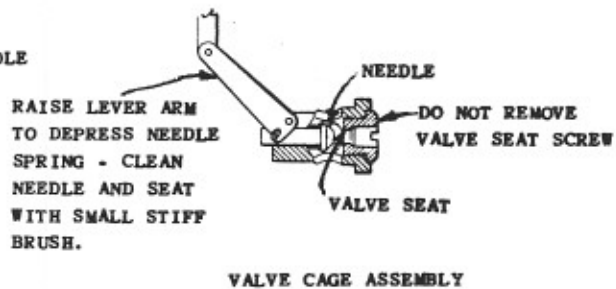

FIGURE 194
7. When valve cage assembly has been taken out as shown in Figure 194, raise lever arm to depress valve spring and raise needle off of seat. Clean out with small stiff brush using solvent.